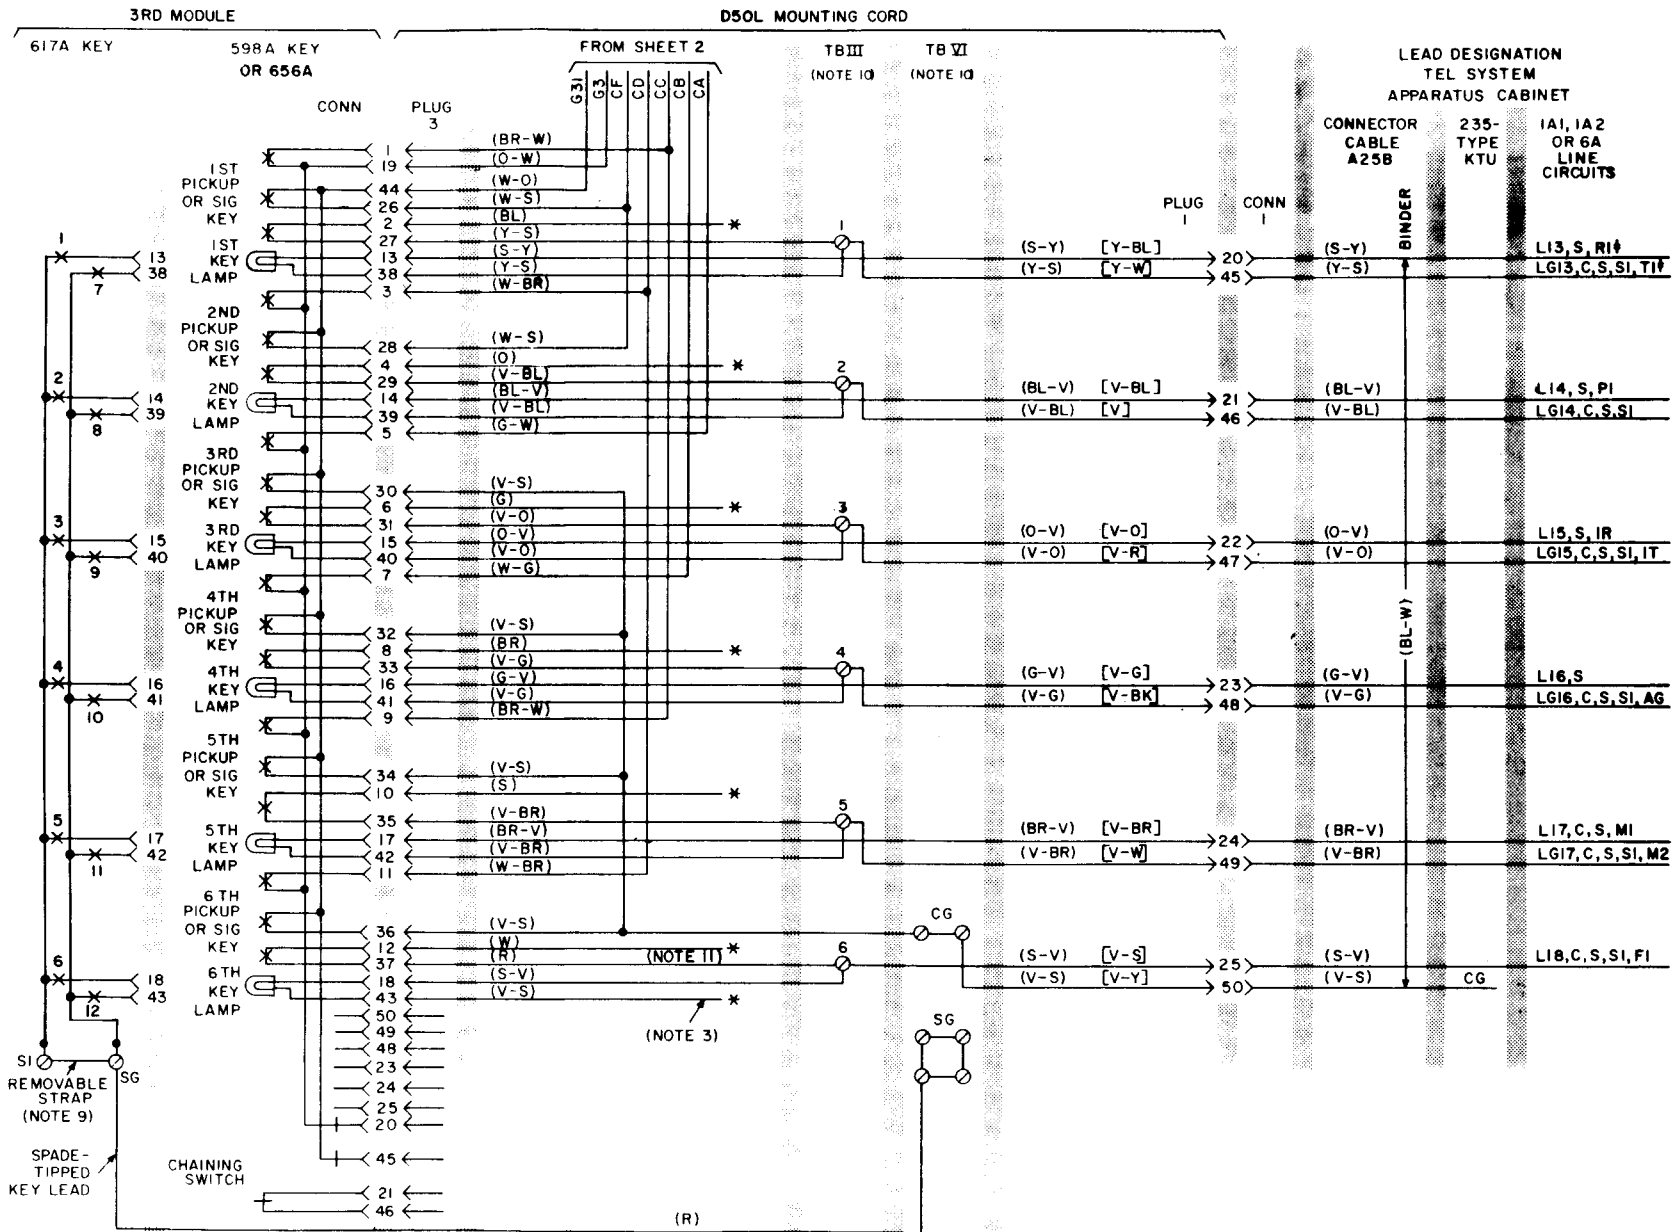

Fig. 2—Module Arrangements and Cord and Cable Connections for 2634D (MD) Telephone Sets (Sheet 3 of 3)
2.03 A 599B or 657B key may be used in the first key position to provide ringer or line cutoff (Notes 5 and 6, Fig. 2 or 3). When other uses are required, they must be provided for by means of an auxiliary relay separately mounted and controlled by the turn key contacts since there are insufficient mounting cord conductors to permit full switching at the key.
NOTES FOR FIG. 2 AND 3:
TO FIG. 2 OR FIG. 3